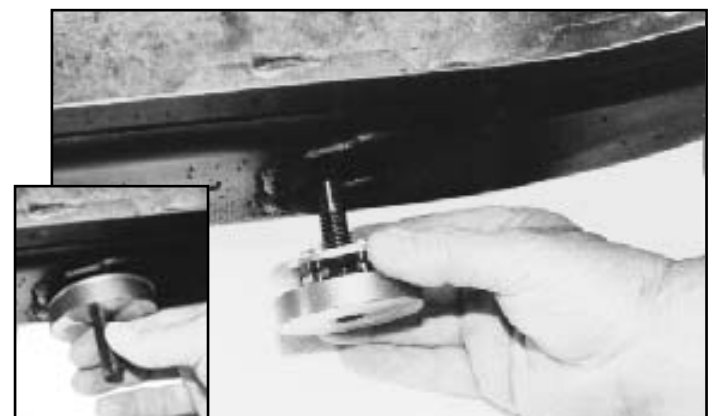

Figure 3
4. Slide oval spacer and oval insert onto threaded end of hold down attachment. (See Figure 3.) Oval insert must fit within oval hole on underside of rocker panel. (See Figure 3 inset.)